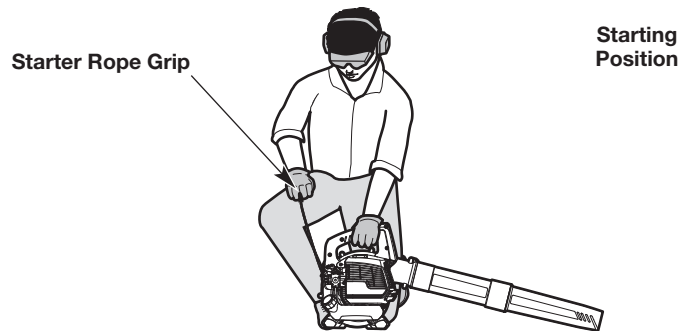

Fig. 5
**WARNING:** Avoid accidentally starting the unit. To avoid serious injury, the operator and the unit must be in a stable position when pulling the starter rope (Fig. 5).
6. **DO NOT** squeeze the throttle control. Crouch in the starting position (Fig. 5).